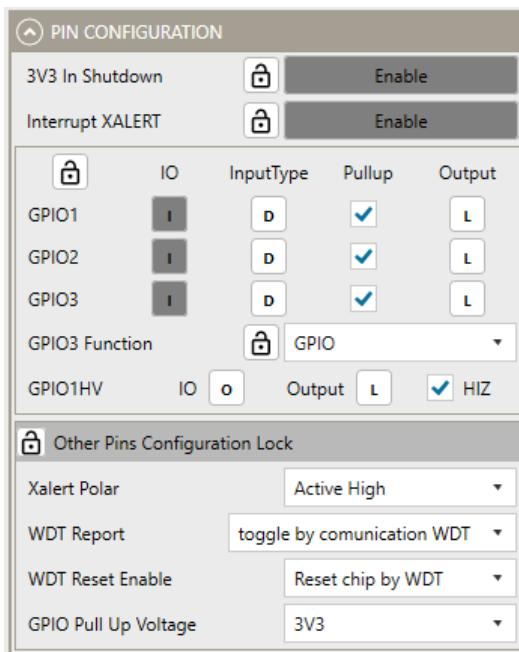

Figure 13: Pin Configuration
5. Figure 13 shows the Pin Configuration settings in the GUI.